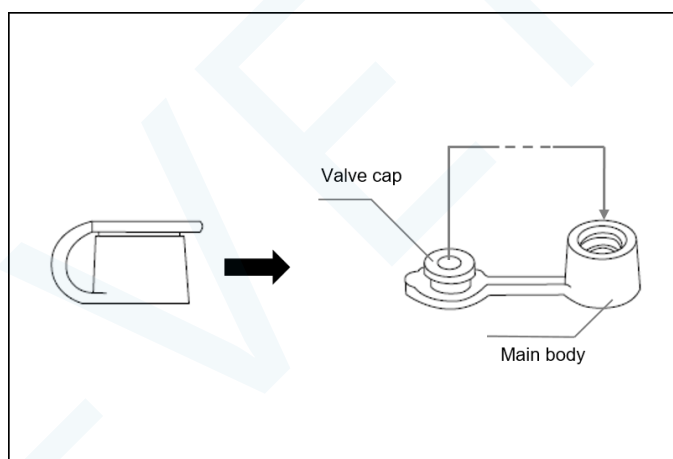

Figure 7.21
3. Before soaking in the washing solution, remove the biopsy valve cap from the body (Figure 7.21).